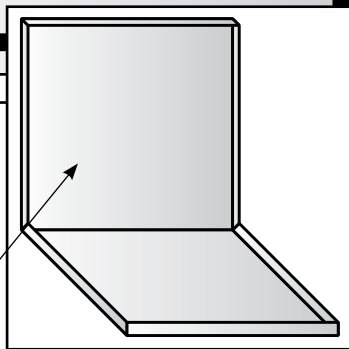

Figure 16
**Figure 16** illustrates a folded Omega-Lite panel that is properly prepared for an outside corner.